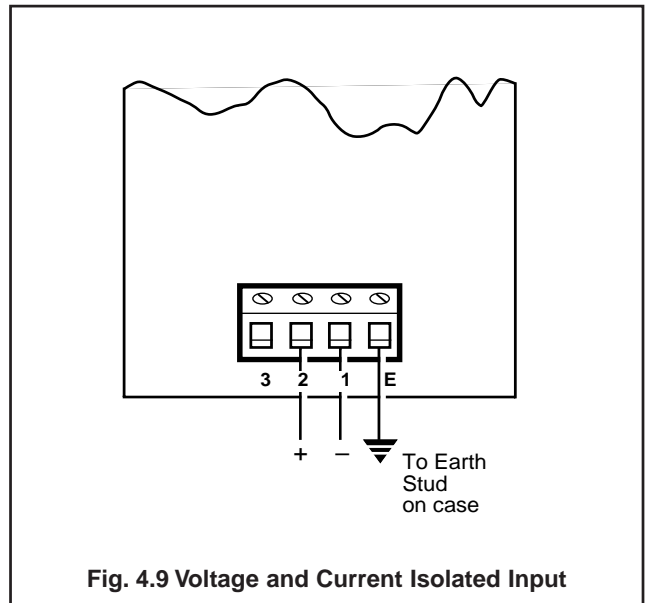

Fig. 4.9 Voltage and Current Isolated Input
4.4.2 Voltage and Current Inputs – Fig.4.9
Make connections as shown in Fig.4.9.